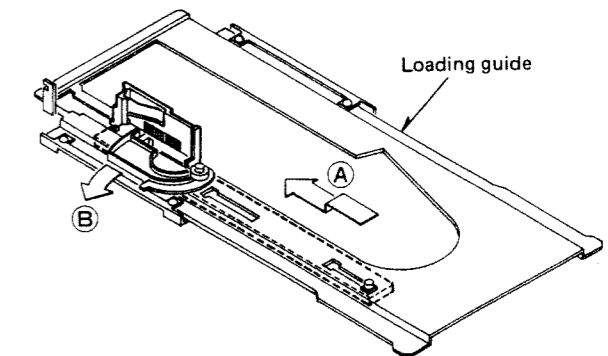

Fig. 18
2. Move the drive rack in the direction of arrow (A) while opening the switch arm in the direction of arrow (B), and then pull out the drive rack downward. (Fig. 18)